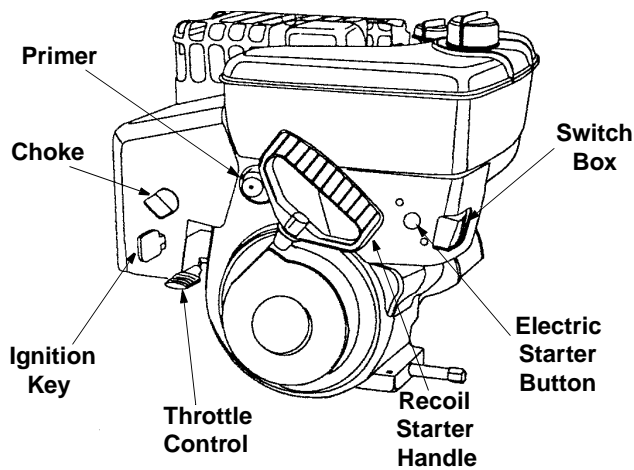

Figure 9
The throttle control is located on the engine. It regulates the speed of the engine and will shut off the engine when pushed down completely. See Figure 9.
The safety ignition key must be fully inserted in the switch before the unit will start. Remove the ignition key when the snow thrower is not in use. See Figure 9.
- Move the throttle control up to the FAST position. Insert the ignition key into the slot. See Figure 9. Be certain it snaps into place. **Do not** turn the key.
- Push the primer button three times. If the engine is warm, push the primer button once only. See Figure 9.
- **Electric Start:** Push the starter button on the front of the engine to turn the starter. When the engine starts, release the starter button (see Figure 9).
- **Recoil Start:** Grasp the starter handle (see Figure 9) and pull the rope out slowly until resistance is felt. Pull the starter handle rapidly. Do not allow the handle to snap back. Allow it to rewind slowly while keeping a firm hold on the starter handle.
- Wipe all snow and moisture from the carburetor cover in the area of the control levers. Also, move the control levers back and forth several times. Leave the throttle control lever in the STOP or OFF position. Leave the choke control in the FULL choke position. See Figure 9.